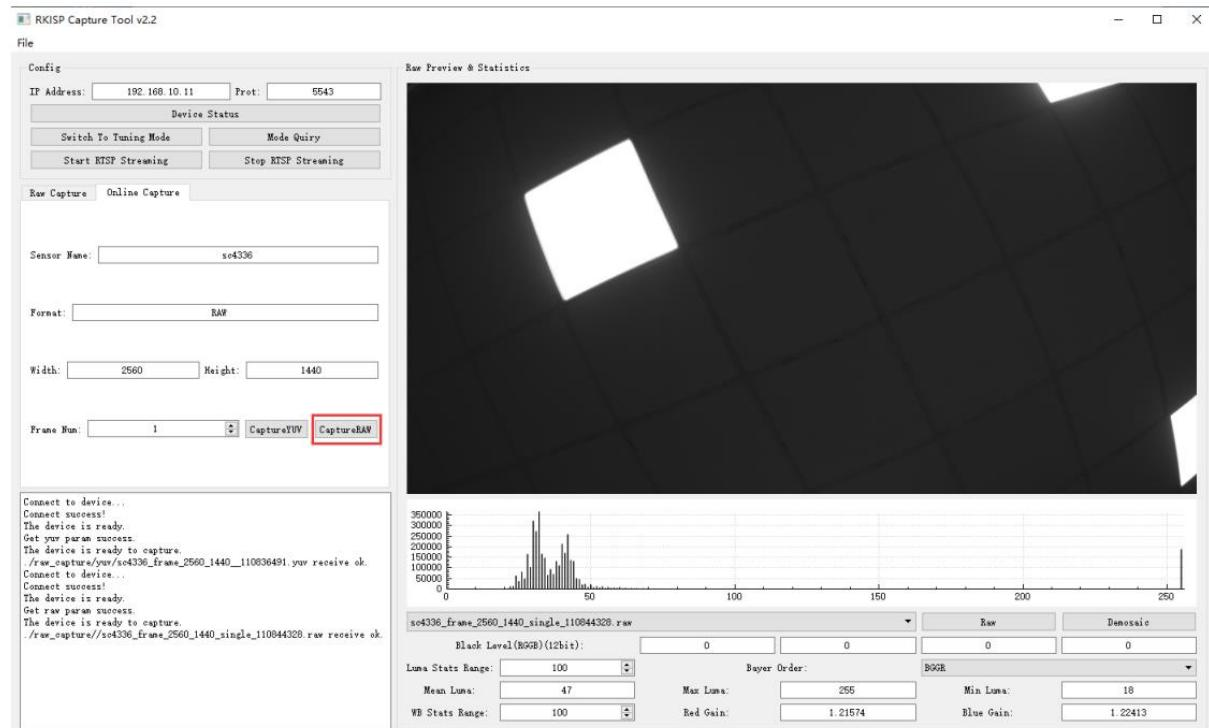

Figure 3-7-3-1
5. Click **Capture Raw**, the image can be viewed on the preview, the file will be stored in **raw_capture/**, as shown in Figure 3-7-3-1: